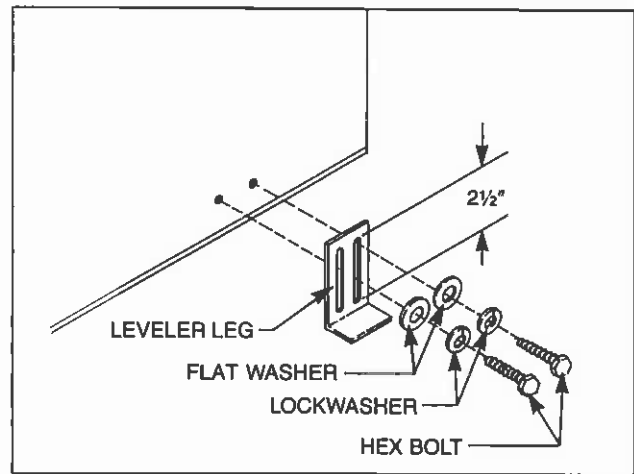

Fig. 4. Leveler leg attachment.
B. Attach leg levelers to the lower rear sides with 2 hex head bolts, 2 flat washers and 2 lock washers each. (See Fig. 4). Slide leg levelers to full upward position and tighten bolts.